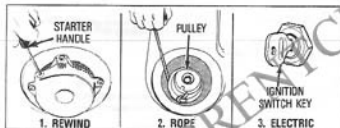

Figure 2
1. REWIND STARTER (see Figures 2 and 3)
- A. Grasp STARTER HANDLE (see Figure 2) and pull rope out, slowly, until it pulls harder due to engine compression. Let rope rewind slowly.
2. ROPE STARTER (see Figure 2)
3. ELECTRIC STARTER — 12 VOLT D.C. (see Figures 2 and 3)
- A. Press starter button or turn IGNITION SWITCH KEY (see Figure 2) per equipment manufacturer's instructions to activate starter motor and crank engine.
A. Grasp **STARTER HANDLE** (see Figure 2) and pull rope out, slowly, until it pulls harder due to engine compression. Let rope rewind slowly.
A. Press starter button or turn **IGNITION SWITCH KEY** (see Figure 2) per equipment manufacturer's instructions to activate starter motor and crank engine.